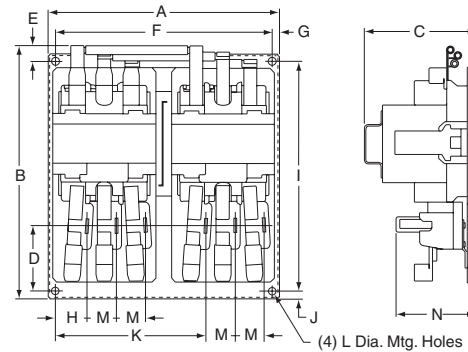

Figure 4:
- ▲ Consequent pole type starters consist of two 3-pole starters as pictured in Figure 4 and an additional 2-pole shorting contactor (not shown), all on a common base-plate, horizontally mounted.